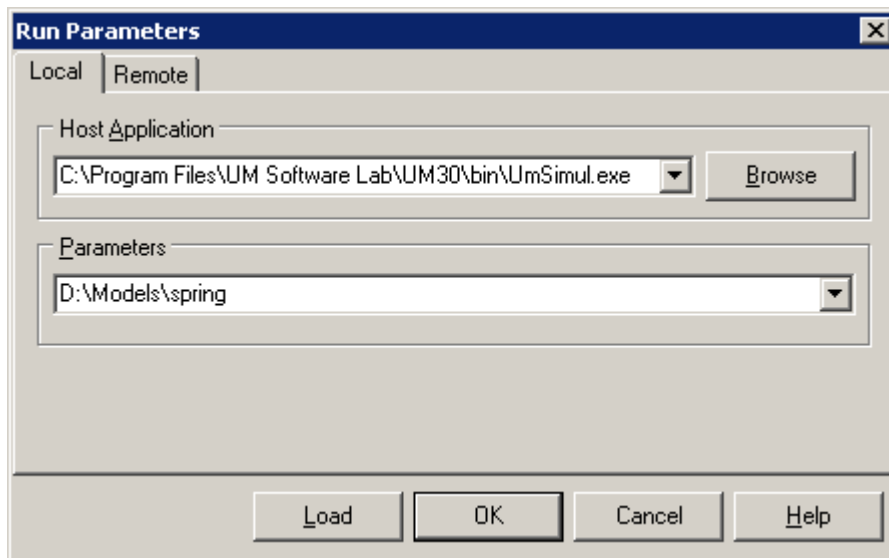

Figure 5.9.
- Input path to model directory ( $..\ [ModelName]$ ) in the **Parameters** field. It leads that simulation module loads the model right after start (see Figure 5.9).